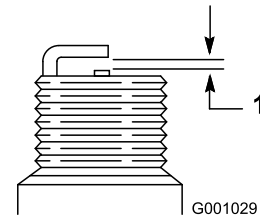

Figure 53
4. Set the gap between the electrodes on a new spark plug at 0.76 mm (0.030 inch) as shown in Figure 53.